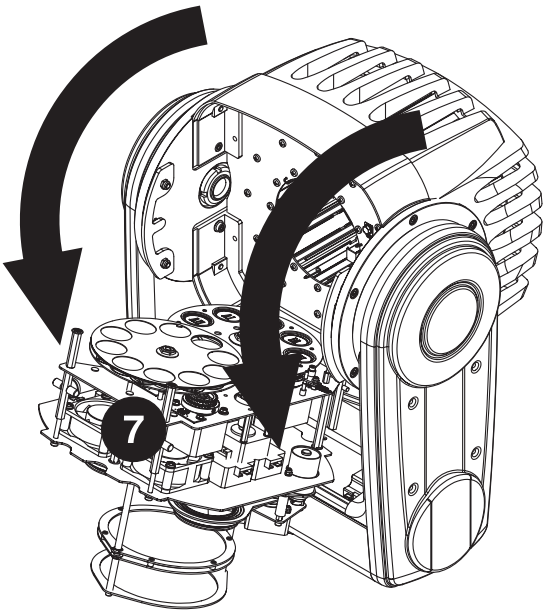

Fig. 4
- 4. Swivel the whole block downwards (Fig. 4)